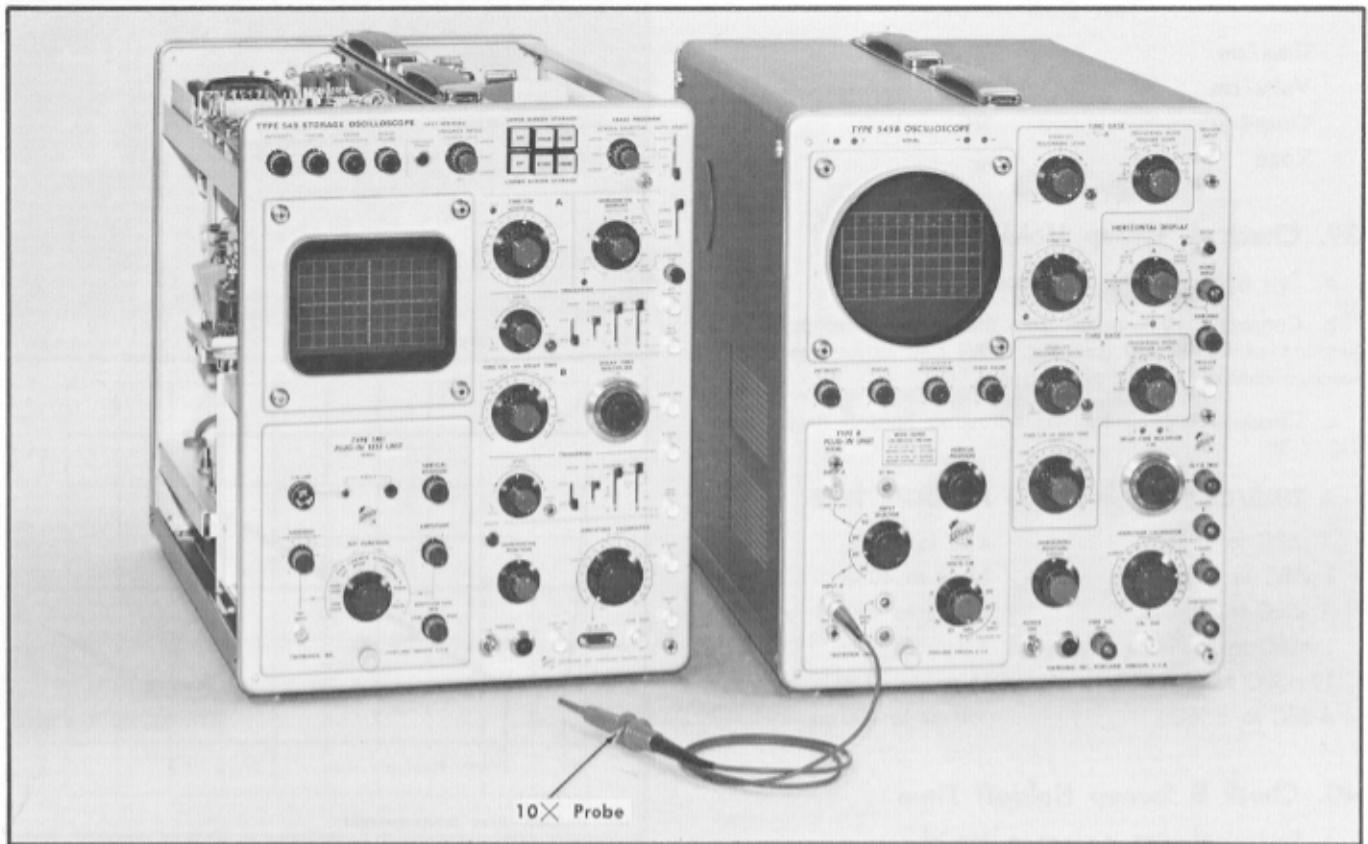

Fig. 6-37. Equipment setup for steps 41 through 45.
- Equipment setup is shown in Fig. 6-37.